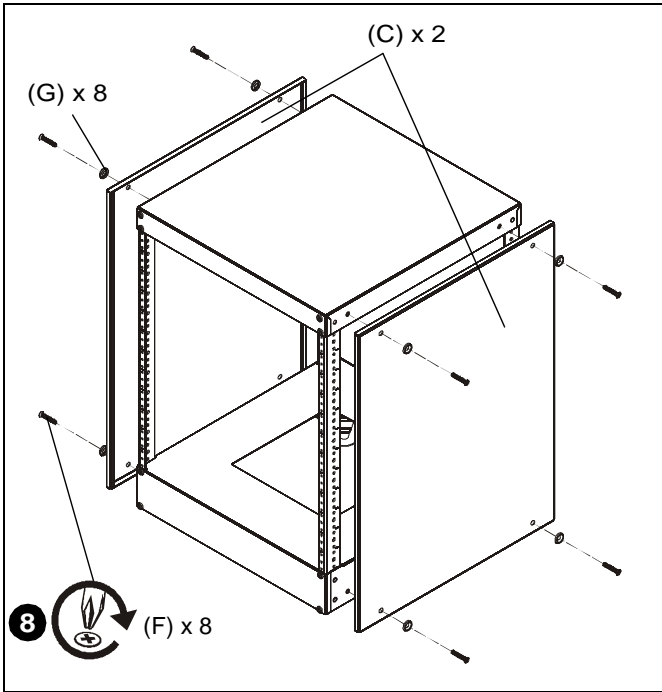

Figure 4
8. Use eight 1/4-20" Phillips flat machine screws (F) and eight rack washers (G) to secure two side panels (C) to rack top and rack bottom. (See Figure 4)